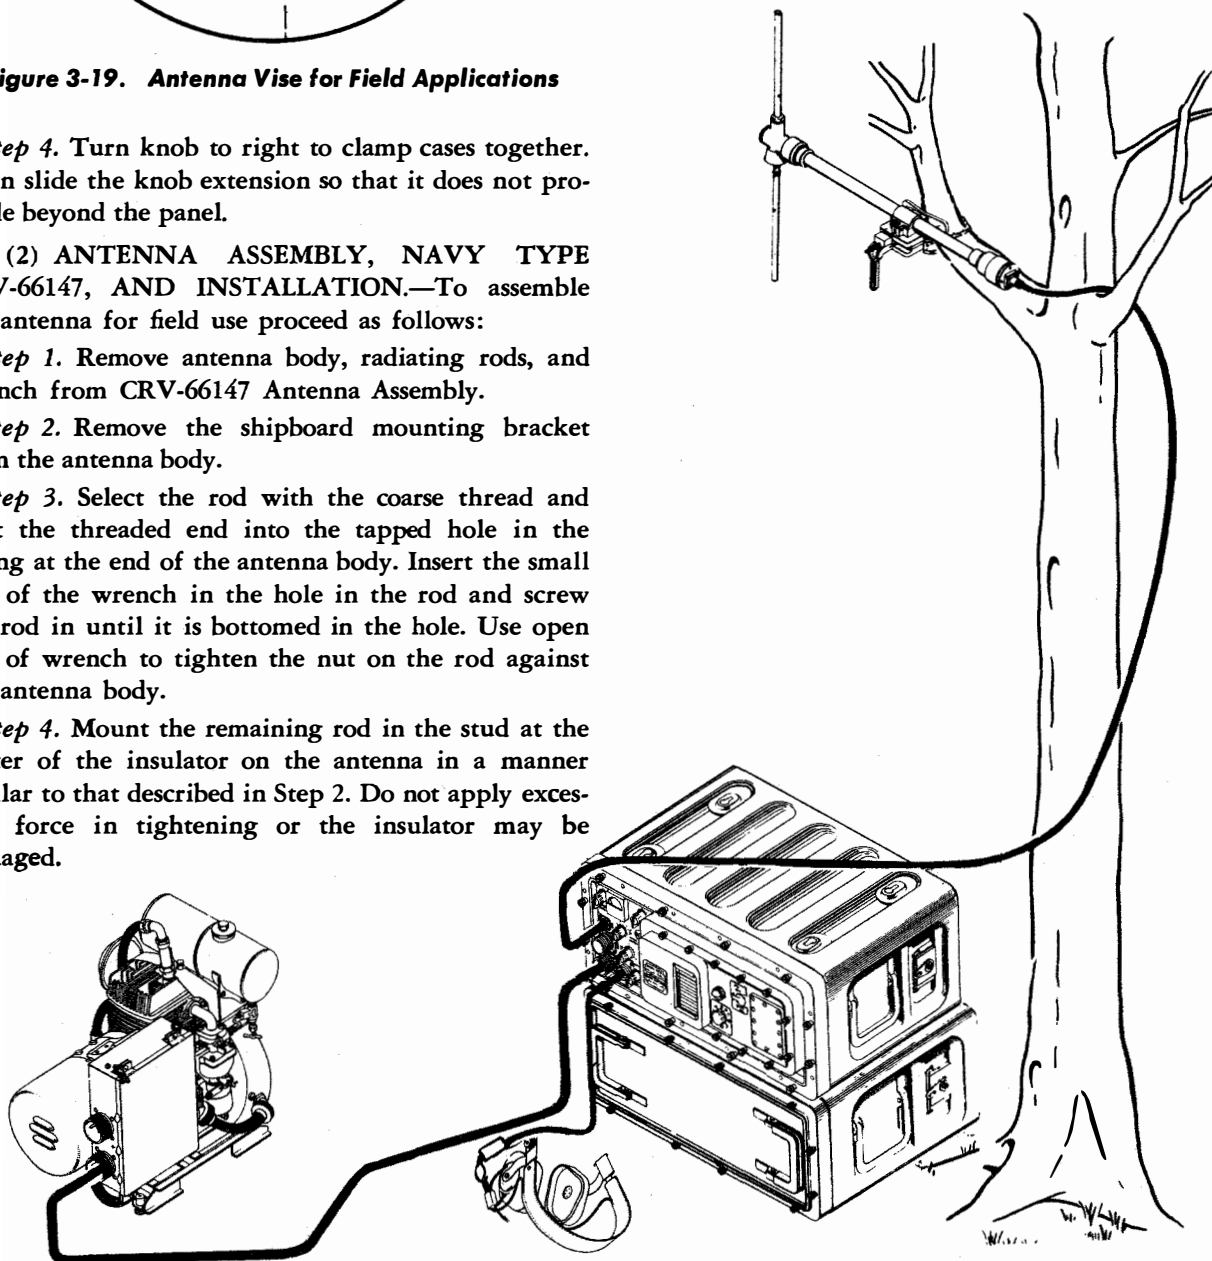

Figure 3-20. Typical Field Installation
Step 3. Loosen wing nut on vise, raise the hinged cap, and insert the tubular body of the antenna; then lower the hinged cap, insert pivoted bolt in the cap, and tighten the wing nut. The connector end of the antenna body should be as close to the vise as possible and the antenna rods should be vertical, with the insulated radiating rod pointing down. Figure 3-20 illustrates a typical installation.